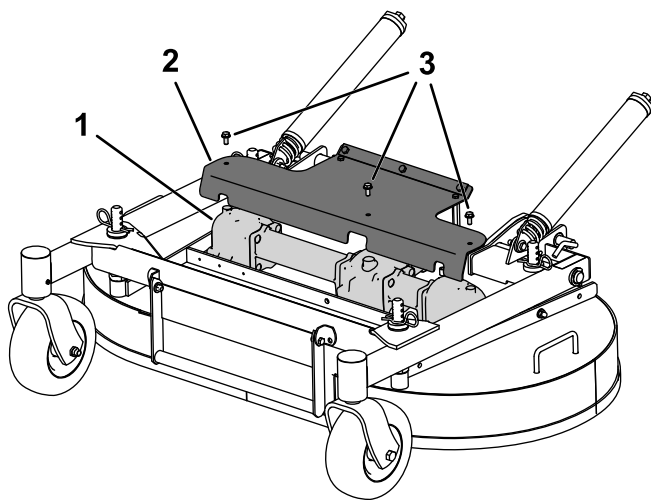

Figure 29
3. Remove the guard to access the gearbox (Figure 29).